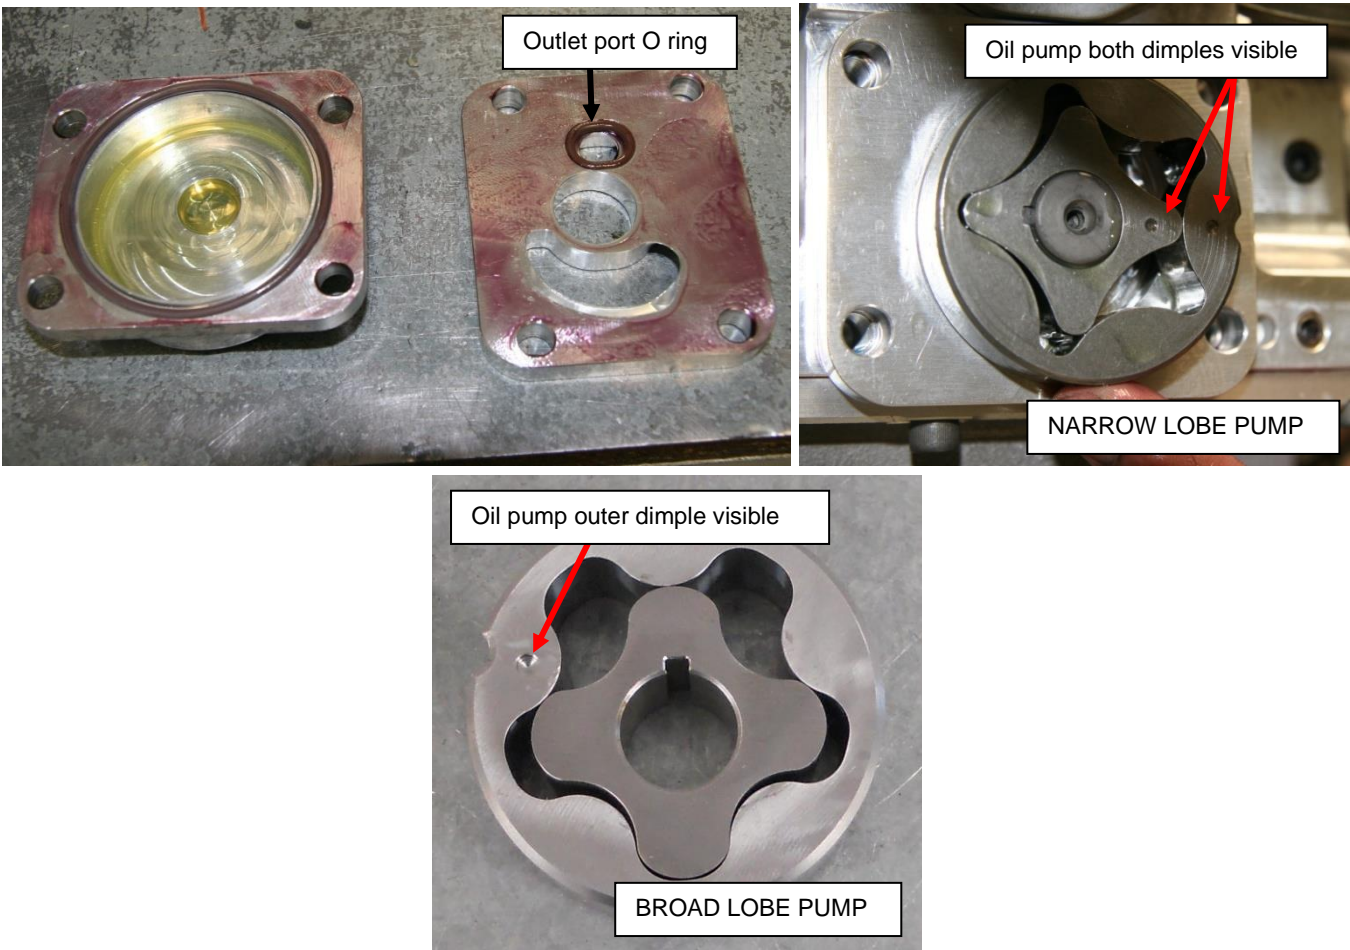

Figure 208 – Fitting Oil Pump & Port Plate
- Fit a new BS112V O ring to the port plate to seal the pressure delivery port (Figure 208).
- For the **Narrow Lobe Pump**, Both dimples must be visible (i.e. facing outwards) Figure 208.